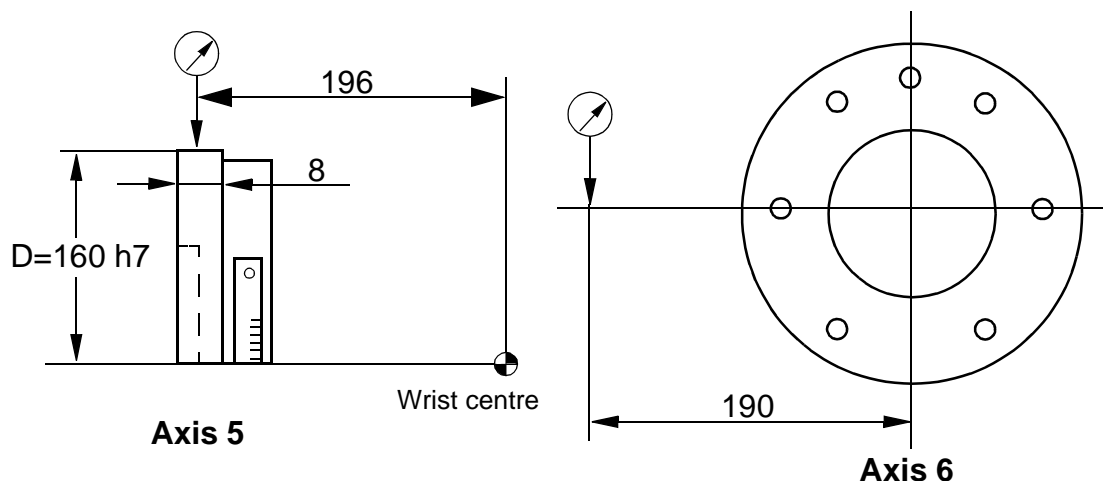

Figure 7 How to measure the play in the wrist.
3. Fix a PEK dial indicator with a magnetic foot on the fixing plate. Measure against the front part of the turning disc, at $D=160$ mm, $B=8$ mm. See Figure 7.
2. Measure with a PEK dial indicator against the tool. See Figure 7.